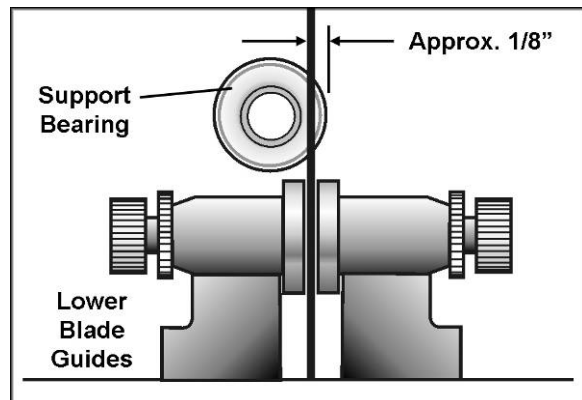

Figure 21
13. The bearing holder on the shaft is eccentric. Rotate the support bearing until the back edge of the blade overlaps the front face of the support bearing by approximately 1/8". See Figure 21.